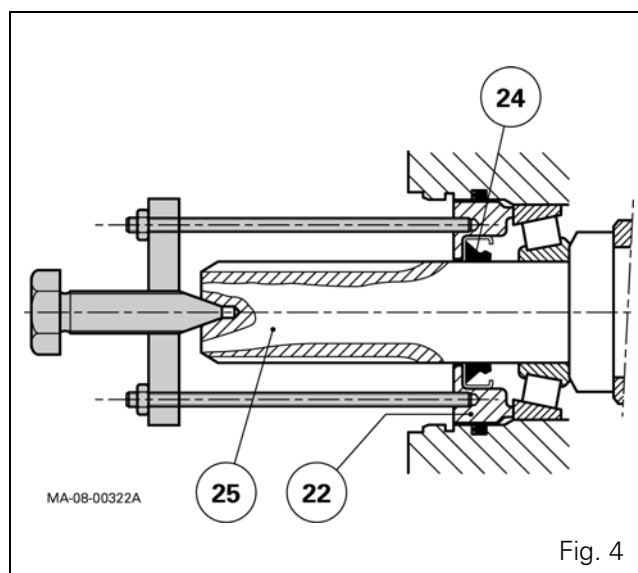

Fig. 4
4. Remove the circlip (23).
5. Protect the splined part of the shaft (25). Extract the cap (22) with its seal (24) using the makeshift tool (Fig. 4) (see § G). Remove the seal (24).
6. Remove the "O" ring (21).
7. Remove the shims (20) and the cup (18).